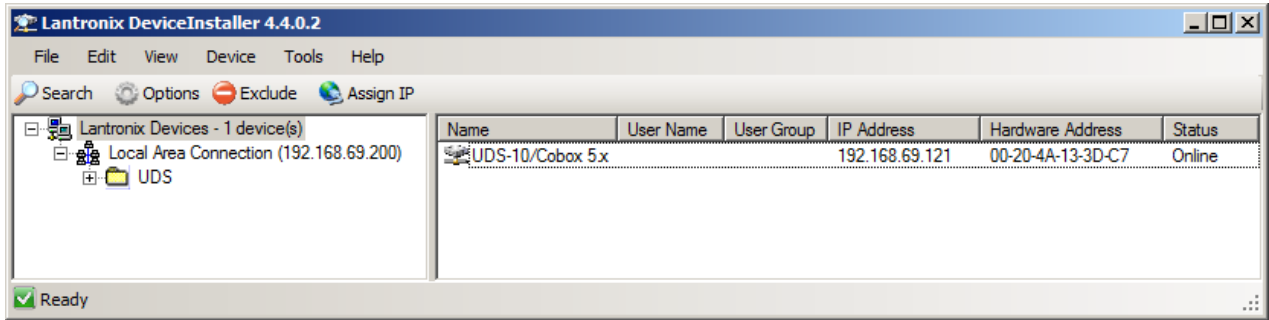

Figure 1 - The initial DeviceInstaller window
Next, launch the Lantronix® DeviceInstaller™. You should see a window similar to the one in Figure 1.
- 13) Return to the initial launch window (Figure 1) and click Search. The DeviceInstaller™ should find your newly configured CNI, and display it along with any previously existing CNIs (**Error! Reference source not found.5**).